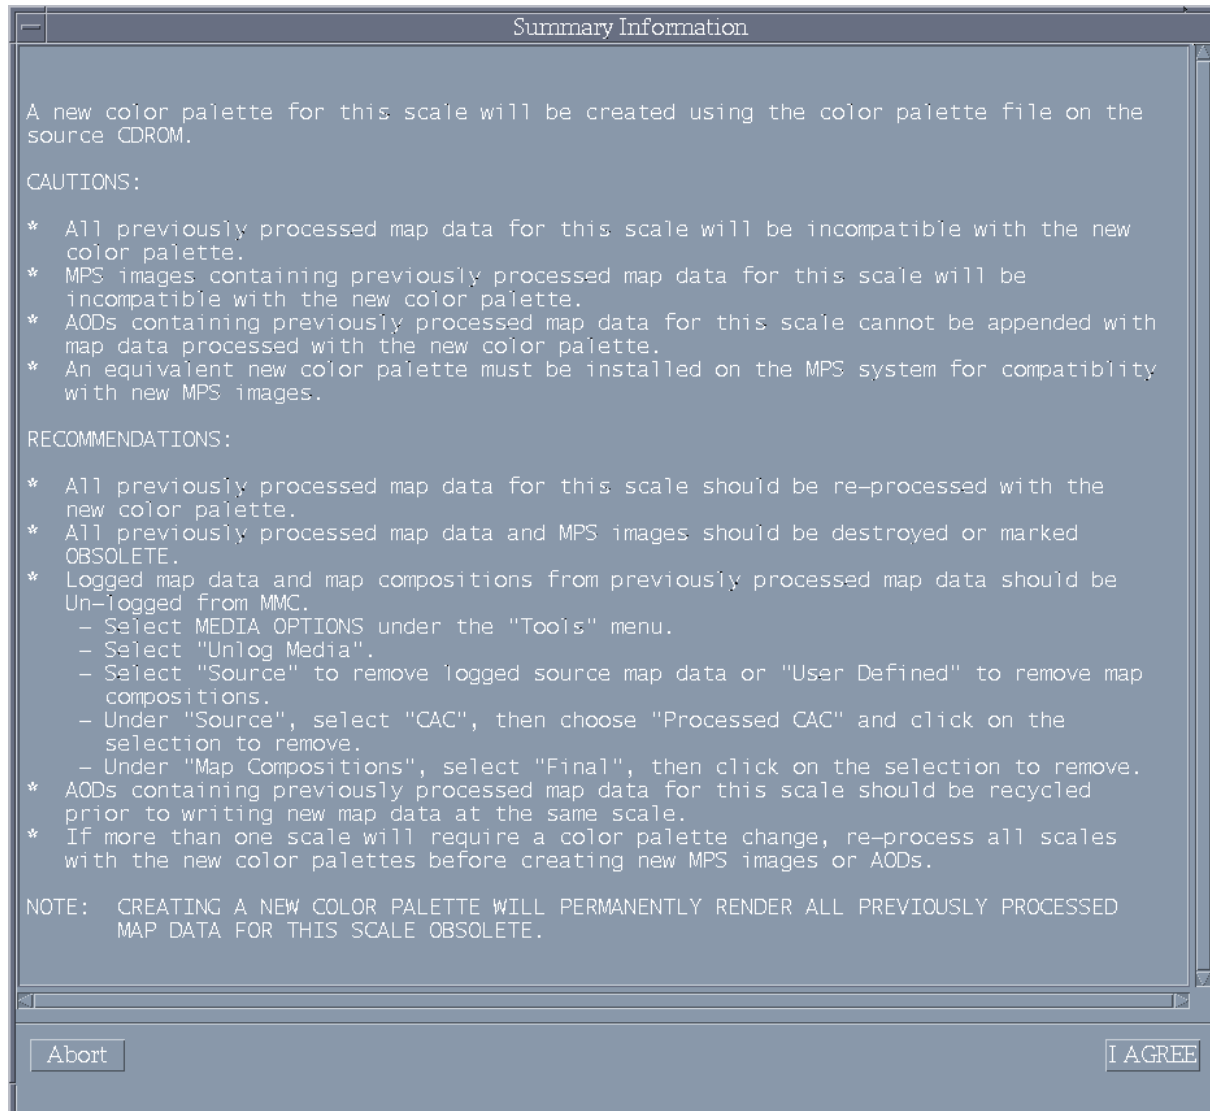

Fig. C2 – New color palette caution summary
- g. A **Summary Information** window (Fig. C2) is displayed that lists cautions and recommendations to consider before creating a new color palette (use the scroll bar to read *all* recommendations). **Please read this information carefully!** Click on *I AGREE* to proceed.